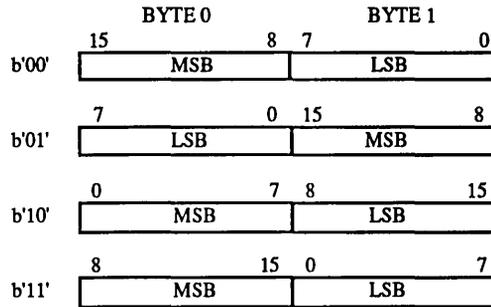

Figure 11. DST\_ORDER Decode.
- Bit 1,0 DST\_ORD1, DST\_ORD0. These bits define the bit and byte order of destination data (see Figure 11).